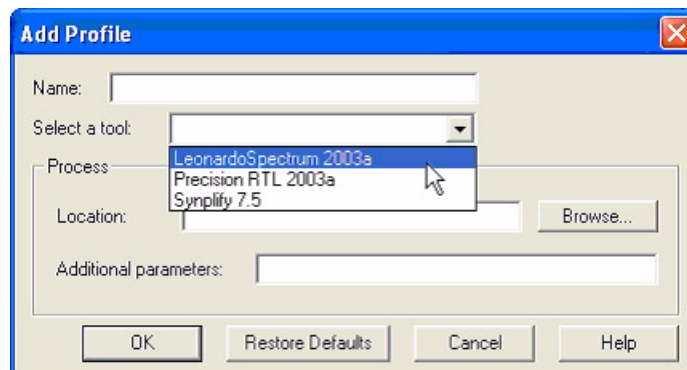

Figure 7-5. Add Profile Dialog Box in Libero IDE
- Click the **Add** button to add a different Synthesis, Simulation, or Stimulus tool. If you wish to add a tool, Libero IDE opens the **Add Profile** dialog box (Figure 7-5).